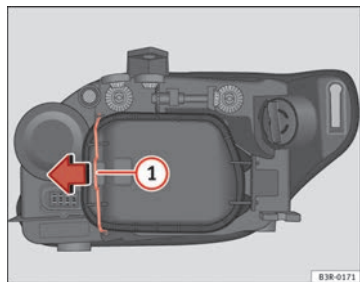

Fig. 195 Side light bulb (outside of vehicle)
- Move the brace → fig. 195 ① in the direction of the arrow and remove the rigid cover, separating the brace side and then removing the two tabs from the other end of the cover.